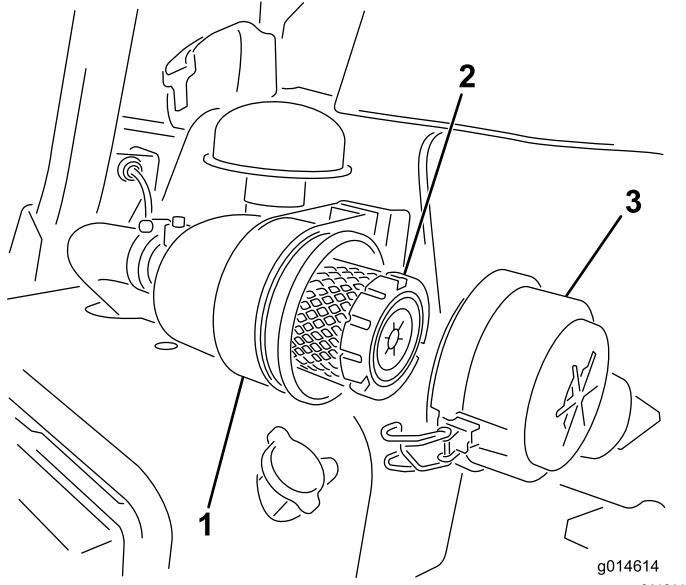

Figure 41
- 1. Release the latches securing the air cleaner cover to the air cleaner body (Figure 41).
6. Secure the latches (Figure 41).